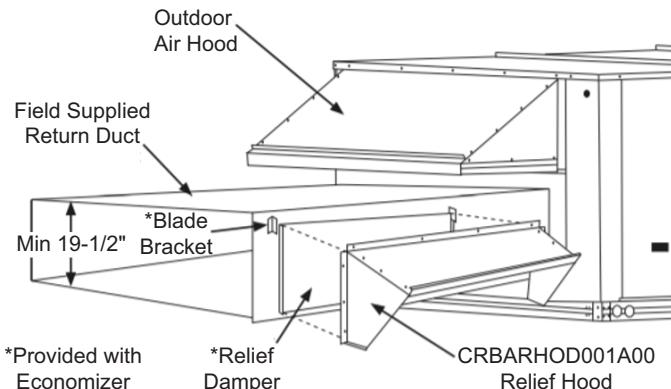

Fig. 35 — Installing CRBARDH001A00 Over Relief Damper
4. Using the blade brackets, install the relief damper onto the side of the return duct (see Fig. 35). The two brackets and relief damper are provided with the economizer.
Caulk the backside of the mating flanges to ensure a watertight seal. Install the CRBARDH001A00 over the relief damper and screw to the return duct, as illustrated in Fig. 35.